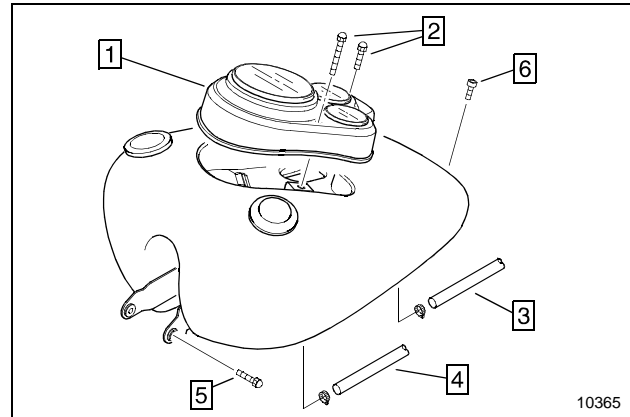

Figure 4
4. Remove the acorn bolts from the instrument pod (see Figure 4). Lift the instrument pod and disconnect the following items from the main wiring harness:
5. Disconnect the vent hose from the fuel tank. Disconnect the fuel hose at the fuel pump (see Figure 4).
6. Remove the front and rear fuel tank mounting bolts (see Figure 4). Lift the fuel tank up off of the motorcycle and move it to a safe location.